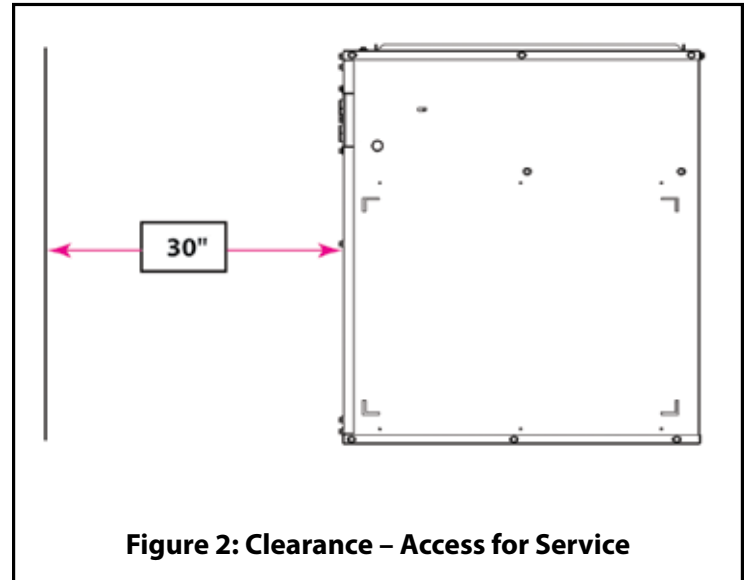

Figure 2: Clearance - Access for Service
This air handler is approved for zero (0) inches clearance to combustible material on any part of the air handler exterior casing. Refer to Table 4 and Figures 2 and 3 for clearance to combustibles and for service access clearances.